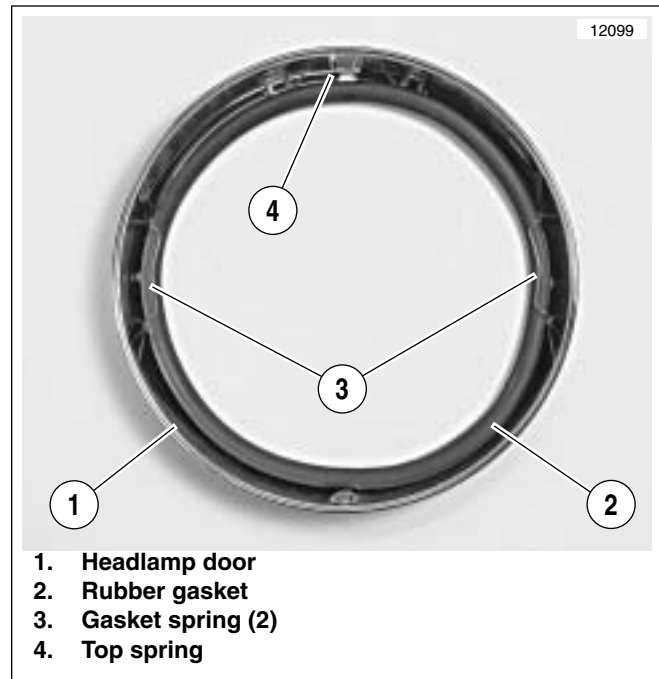

Figure 8-5. Headlamp Door Assembly
4. See Figure 8-5. Make sure rubber gasket (2) is in place in headlamp door (1) and not deformed or otherwise damaged. Make sure gasket springs (3) are holding gasket in place. Make sure top spring (4) is in place and located at top center of door.